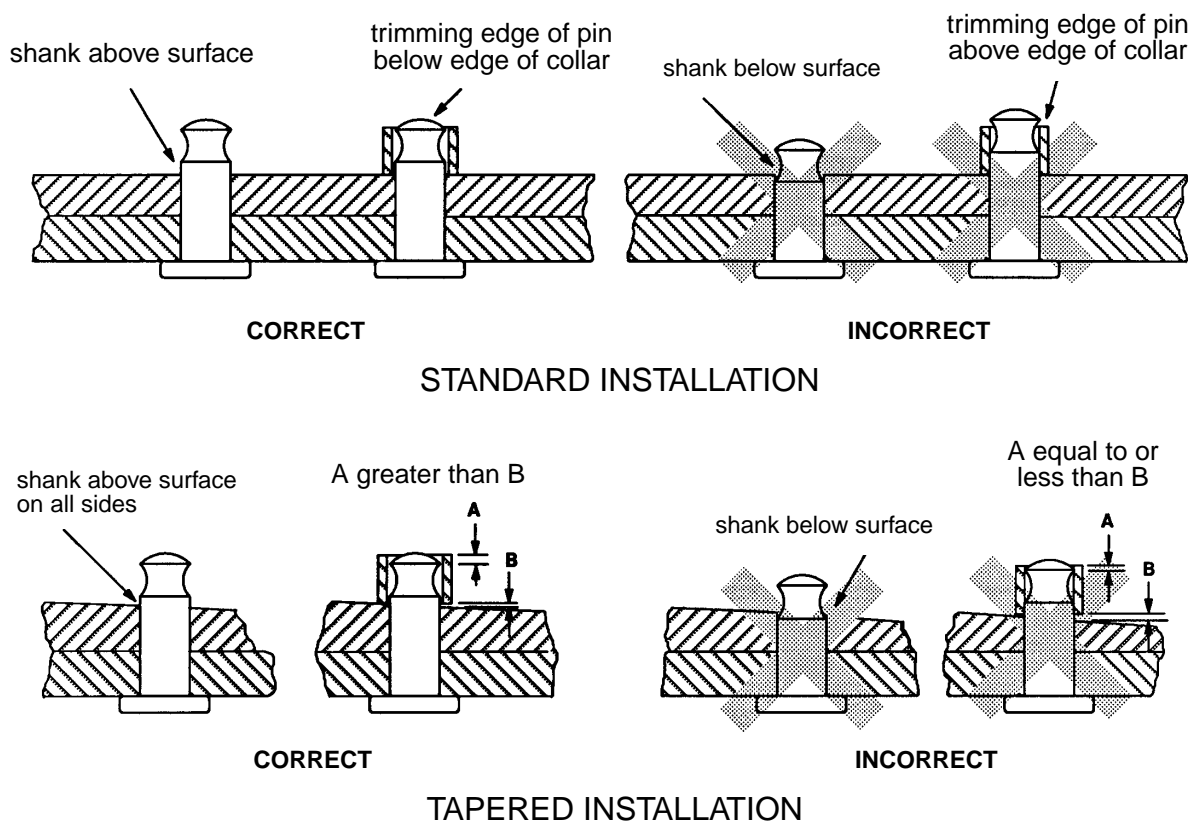

Figure 12 - Visual Check for Correct Grip Length
- 5.4.4 If Hi-Shear rivets or dowel pins of the required length are not available, the next longer grip length may be used together with one AN960-() L steel washer under the collar, provided that the requirements of Figure 12 are met with the washer in place. Bombardier Toronto (de Havilland) MRB or Bombardier Toronto (de Havilland) delegated MRB written approval is required to use more than one washer or a thicker washer.
- 5.5.4 After insertion, ensure that the protrusion of the fastener pin groove through the work meets the requirements of Figure 12. If the rivet or dowel pin protrusion is incorrect, re-check the required grip length.